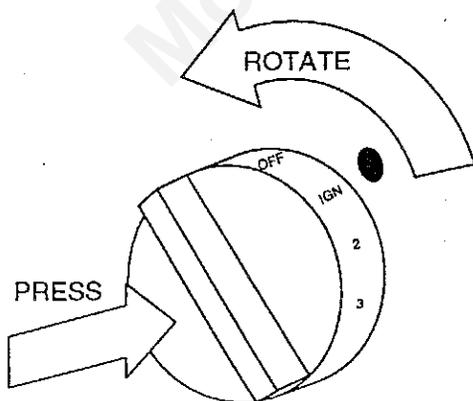

FIGURE 10. Control Knob
5. Turn the control knob counterclockwise  to the IGN position (FIGURE 10). Press in control knob for 5 seconds.
Refer to FIGURE 10. Turn control knob clockwise  to the OFF position.